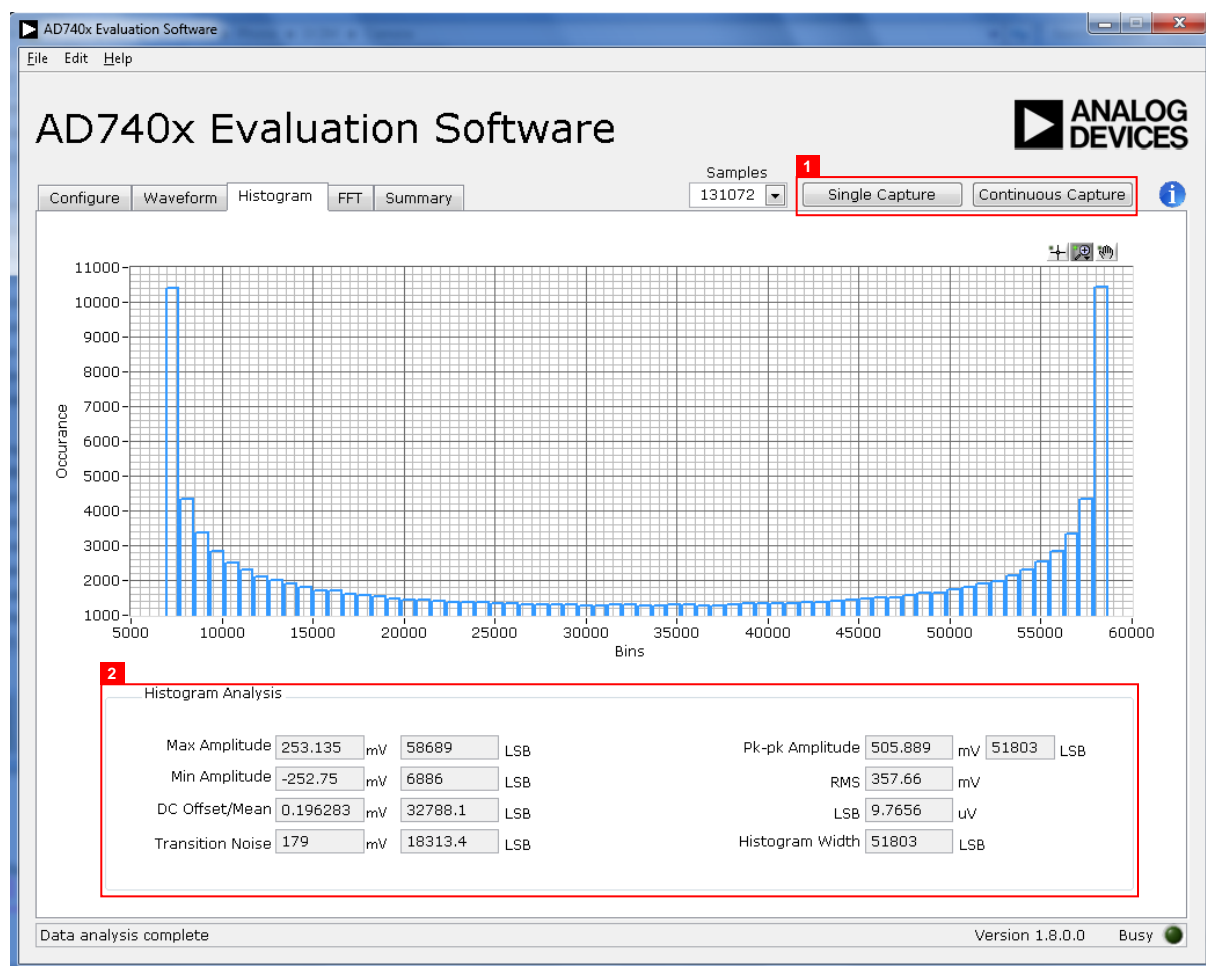

Figure 17. Histogram Capture Tab
The **Histogram** tab (see Figure 17) can be used to perform ac testing or, more commonly, dc testing. This tab shows the ADC code distribution of the input and computes the mean and standard deviation, which are displayed as **DC Offset/Mean** and **Transition Noise**, respectively, in the **Histogram Analysis** area (labeled 2 in Figure 17).
3. Click the **Single Capture** or **Continuous Capture** button (labeled 1 in Figure 17).
2. Click **Single Capture** or **Continuous Capture** (labeled 1 in Figure 17).
Raw data is captured and passed to the PC for statistical computations, and various measured values are displayed in the **Histogram Analysis** area (labeled 2 in Figure 17).